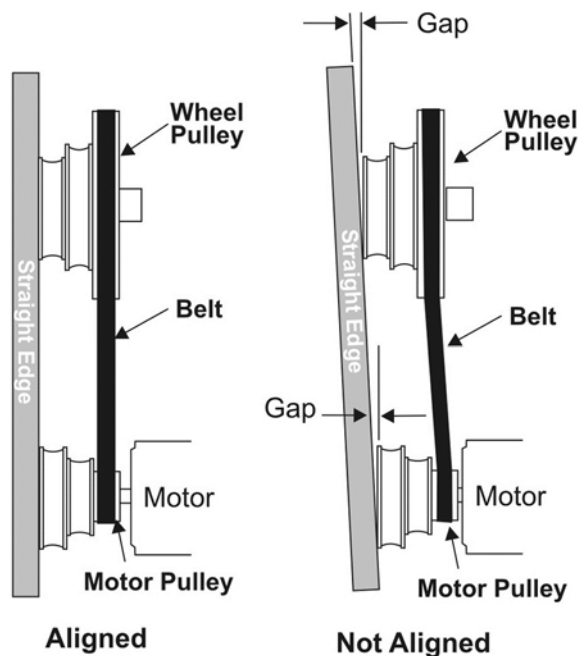

Figure 31
1. Use a straight edge placed against the wheel pulley and motor pulley, and refer to Figure 31 to determine if alignment is necessary.
4. Confirm the alignment of the V-belt by placing a straight edge against the faces of both pulleys, (Figure 31). If the straight edge lies flush against both pulleys, then the pulleys and belt are aligned.